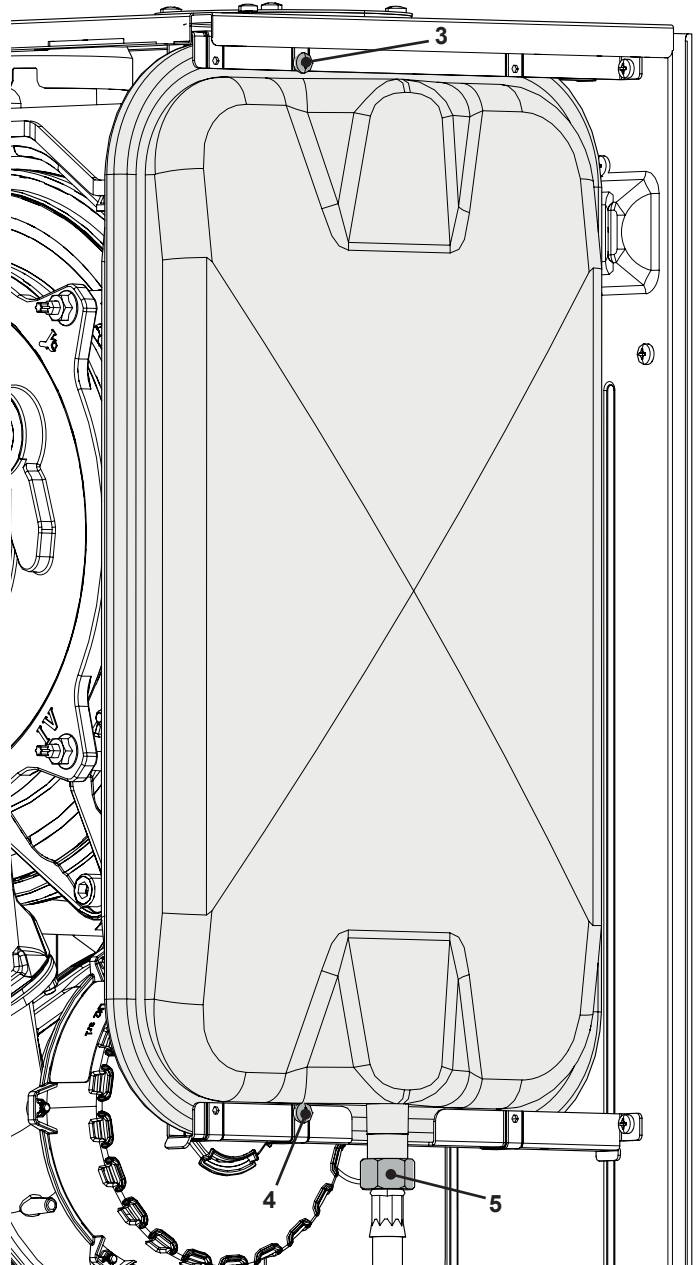

Figure 13.3
- 2 Completely unscrew the connection "5" (Figure 13.3).
- 3 Unscrew the screws "4" and "3" (Figure 13.3).